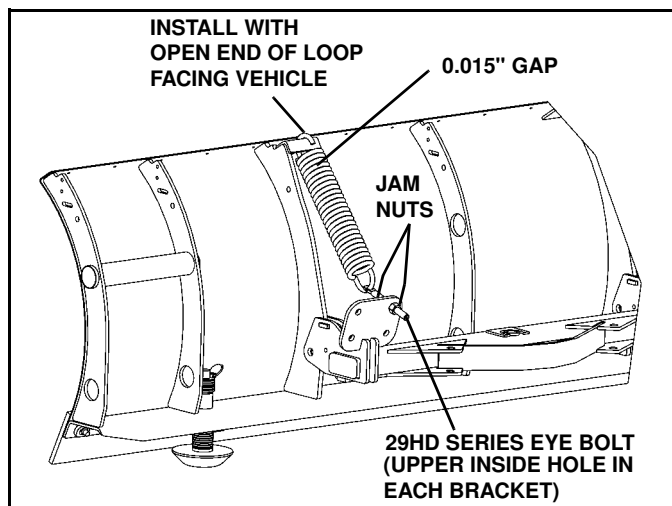

Figure 1-9
5. Insert washer on end of each clevis pin and secure with cotter pin. Make sure cotter pin is properly bent or pin may work loose. (See Figure 1-9)
Insert washer on end of each clevis pin and secure with cotter pin. Make sure cotter pin is properly bent or pin may work loose. (See Figure 1-9)
2. Hook springs onto blade with open end of loop facing up. (See Figure 1-9)
3. Hook other end of spring onto eyebolt. Insert one eyebolt on each side of the blade into the single upper hole on the swing frame spring bracket. Use a jam nut on either side of bracket to secure. (See Figure 1-9)